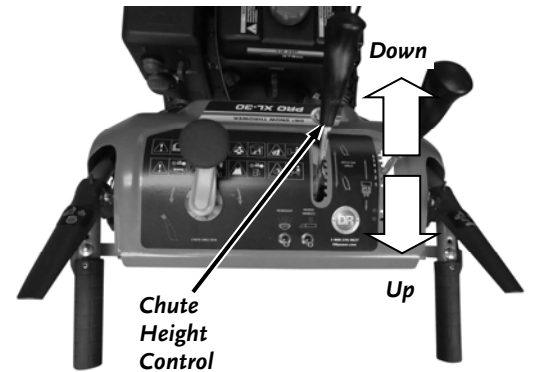

Figure 35
1. Move the Chute Height Control forward to lower the Chute Deflector for Blowing the snow shorter distances (**Figure 35**).